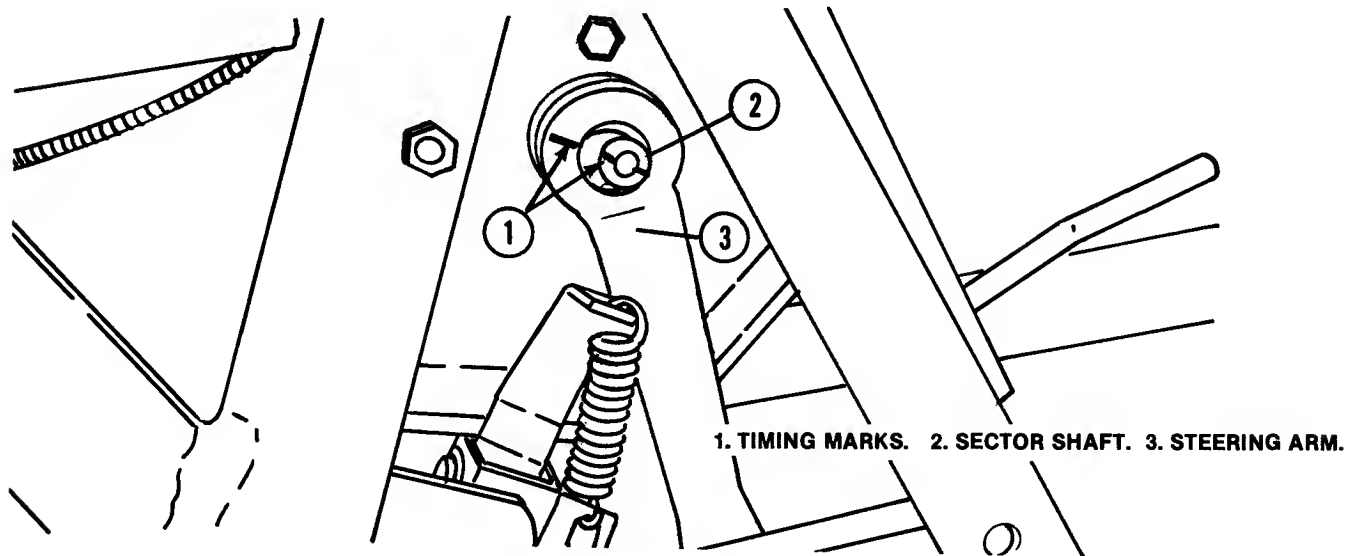

FIG. 2.17 — STEERING ARM LOCATION ON 1855 SERIES
3. Install steering arm while aligning timing marks. Fig. 2.17. And secure with retaining washer and nut.